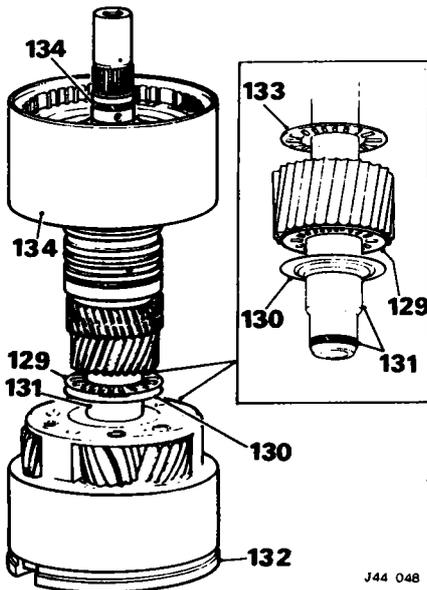

Fig. 47
- 129. Smear the large needle bearing with petroleum jelly and position it on output end of forward sun gear shaft (Fig. 47).
- 130. Position the backing washer, flange leading in planet carrier (Fig. 47).
- 131. Insert the forward sun gear shaft in the planet carrier; fit new fibre sealing ring on output end of shaft (Fig. 47).
- 132. Position the centre support in the planet carrier (Fig. 47).
- 133. Smear the small needle-roller bearing with petroleum jelly and position it on the forward sun gear shaft (Fig. 47).
- 134. Position the rear clutch assembly on the forward sun gear shaft; fit new sintered sealing rings on the input end of the shaft (Fig. 47). Ensure that gaps in sealing rings are staggered.